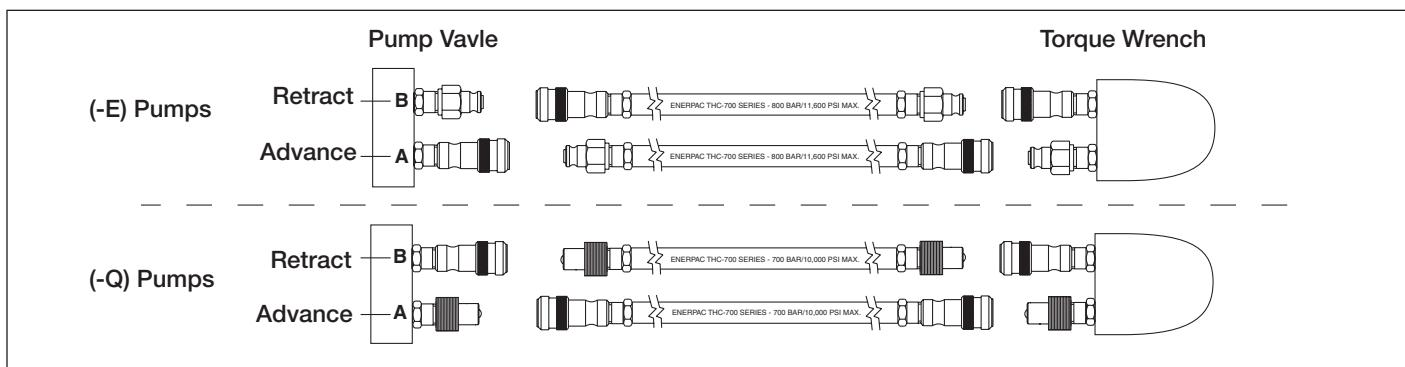

Figure 5
Connect hoses as shown in Figure 5.
- (-E) Pump type for Enerpac SQD and HXD torque wrenches. Be sure to use hoses marked "ENERPAC THC-700 SERIES - 800 Bar/11,600 psi max." The couplers on these hoses are "polarized" at the factory to ensure correct wrench operation. (See figure 5.)
- (-Q) Pump type for Enerpac S and W torque wrenches and other brands. Use hoses marked "Enerpac THQ-700 series-700 bar/10,000 psi max.". Couplers must be polarized per figure 5 for correct wrench operation. Ensure couplers are fully engaged and tightened before operating. Partial coupler engagement will prevent proper wrench operation.